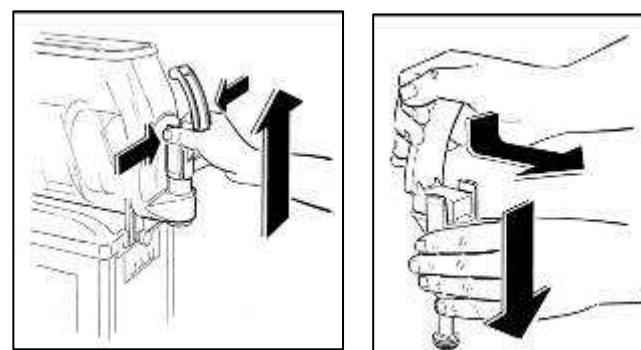

Рис. 29
- Simultaneously press the two securing tabs and lift the tap to extract it from its seat (see Рис.29).
- Disassemble the tap by keeping the body pressed down and slipping the lever from its seat (Рис.29).